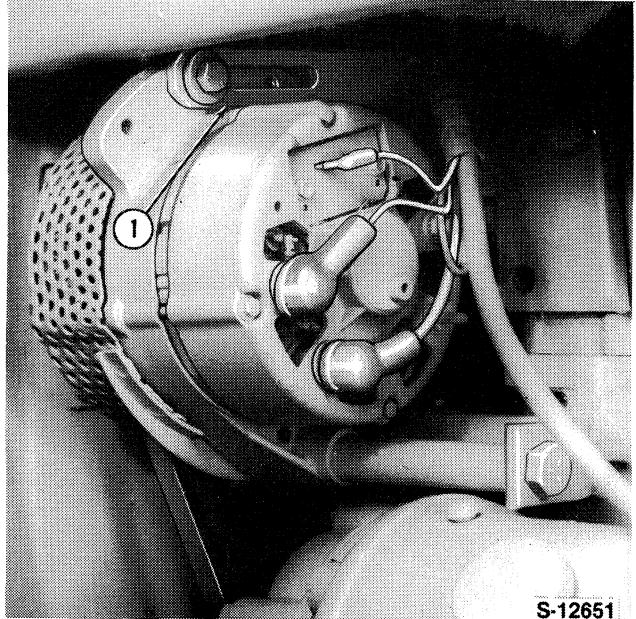

Figure 4
8. Remove the alternator adjusting bracket, Figure 4.